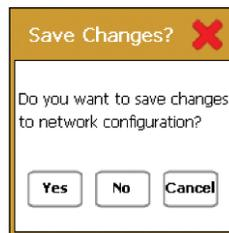

Figure 7-12 Save Network Changes
3. Once all the addresses have been entered, tap the Exit button . A pop-up warning window (Figure 7-12) appears to confirm the numerical entries.